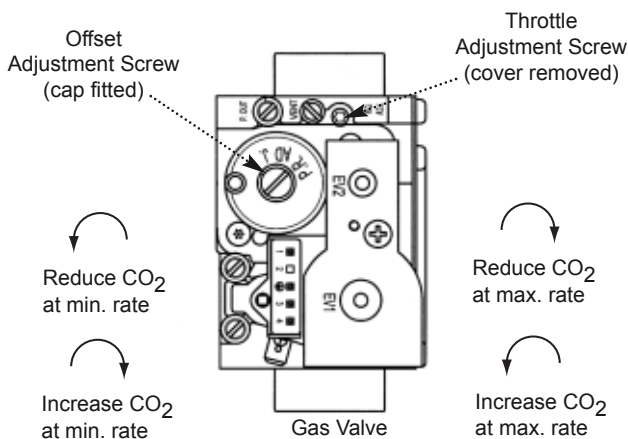

Fig. 61
4. Check the CO2 is 9.3% ±0.1%. If the CO2 is incorrect alter the Throttle Adjustment Screw (Fig. 61). Turn the screw anticlockwise to increase the CO2 or clockwise to decrease (2.5mm hexagon key).
6. Check the CO2 is 8.9% ±0.1%. If the CO2 is incorrect alter the Offset Adjustment Screw (Fig. 61). Turn the screw clockwise to increase the CO2 or anticlockwise to decrease (4mm hexagon key).